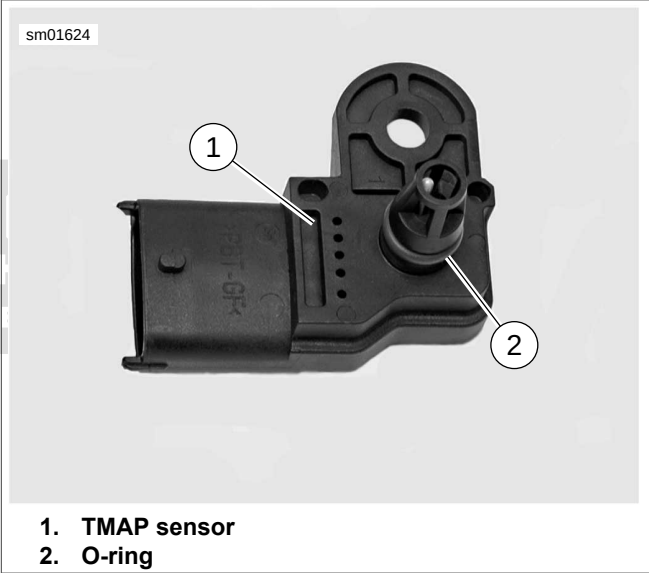

Figure 4-59. TMAP Sensor
1. See Figure 4-59. If re-using TMAP sensor (1), inspect O-ring (2) in groove of sensor for cuts, tears or signs of deterioration. Replace if necessary.